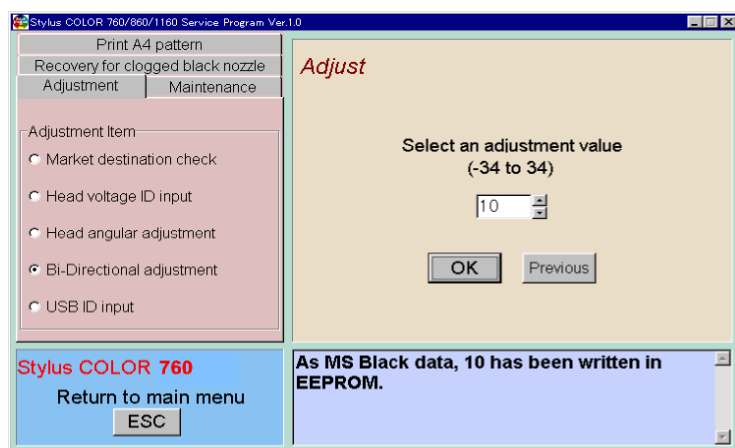

Figure 5-29. Input the suitable value
- Check the printed pattern again and Input the suitable value in the above menu and click the “OK” button. The input value is written in the specific address of the EEPROM. Refer to Figure 5-29. The value 0 (blue) appears in the center of the screen and changes the value by clicking the up/down icon. Apply the value for the most properly aligned pattern in the Bi-D adjustment pattern print. You can change the value by input the suitable value directly from the key board. In case the + value is input, the 2nd vertical printed pattern is shift to the left side. And in case the - value is input, the 2nd vertical printed pattern is shift to the right side.